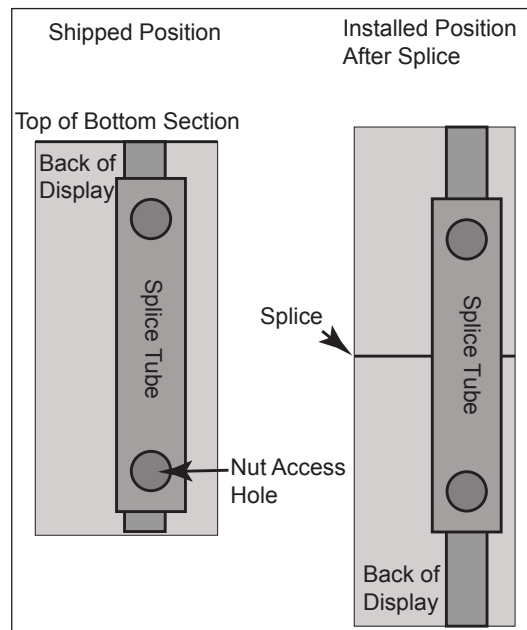

Figure 15: Aligning and Installing the Vertical Splice Tubes
33. Align the splice tube so it is evenly distributed between the top and bottom display sections. Refer to **Figure 15**.